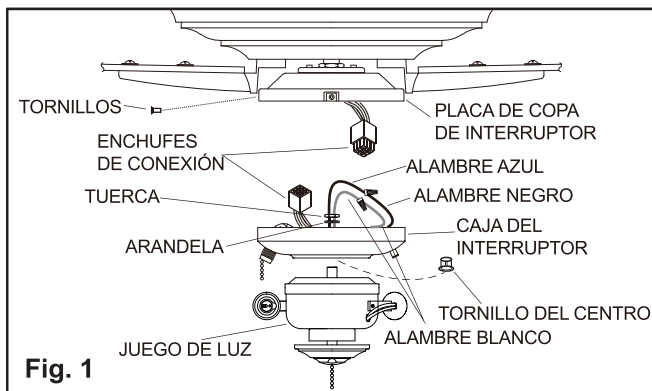

Fig. 1
1. Remove the screws from the switch cup plate to allow easy wiring. Loosen the connection plugs from the switch cup and fan. (Fig.1)
2. Remove and discard the center plug from the switch cup. Attach the light kit to the switch cup by feeding the wires and threading the light kit through the hole of the switch cup, secure it to the switch cup using the nut and lock washer. Be sure it is tight enough to prevent the light kit from vibrating loose. (Fig.1)